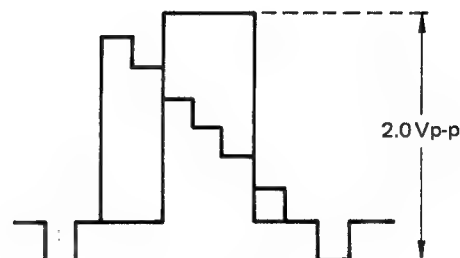

Figure 8-28.
2. Apply color bars (step wave) to the input terminal. Monitoring TP402 with an oscilloscope (external trigger at TP505), adjust R210 (EE LEV) to meet the requirement given in Figure 8-28.